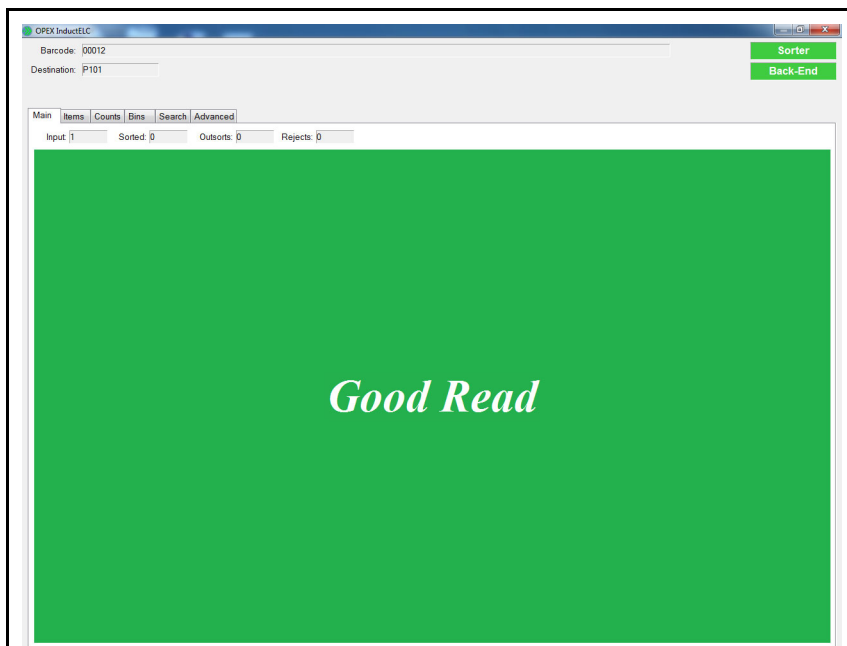

Figure 4-28: OPEX Induct ELC - Good Read
2. The item is scanned for a barcode. If the barcode read was successful, “Good Read” will be displayed (see Figure 4-28).